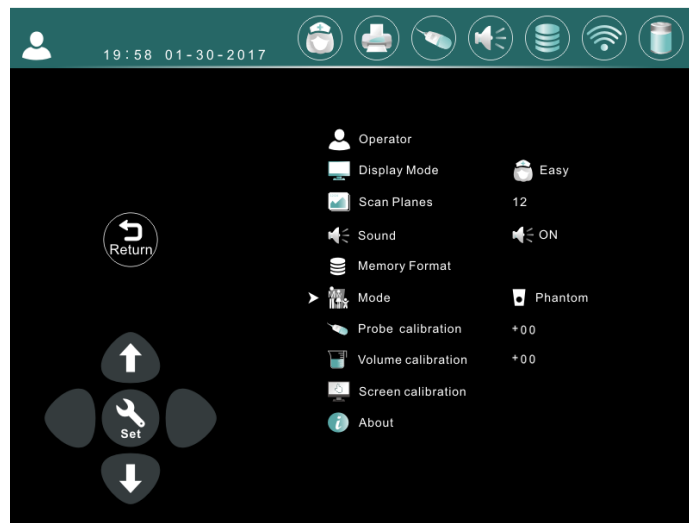

Figure B-2 System setting interface
B.2 Please press “OK” to get into the system setting interface. (As fig. B-2) . Selecting “Phantom” in the “Mode” before return to main system interface.